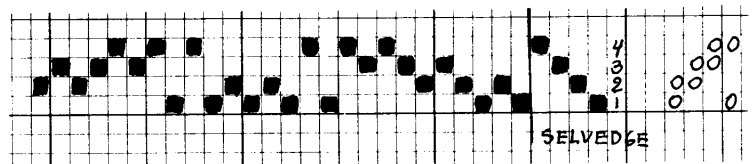

Fig. 3
3. FIGURES. The draft of Figs. 3 and 4 which are overshot patterns derived from point twills for a variety of designs. It gives wider vertical lines.
Patterns are formed by controlling a vertical line's color within its appearance in the basic 4-shed unit (1-2, 2-3, 3-4, 1-4). This type of patterning is especially well covered in the *Handcrafts*² reference. Experiments in figures are based on the "key" described under "Starting a Boundweave Sampler", below. The figures illustrated in Fig. 5 can be woven on the draft of Fig. 3.